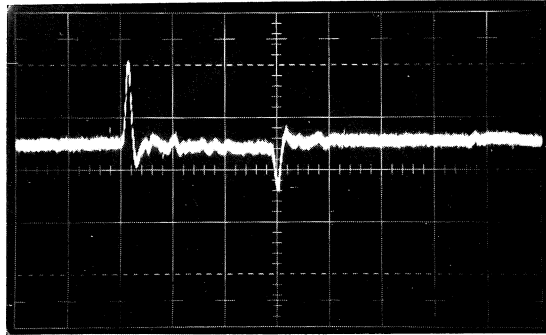

Figure 5-43
5. Check for less than 25 mv (2.5 cm) of kickout pulse amplitude (see figure 5-43).